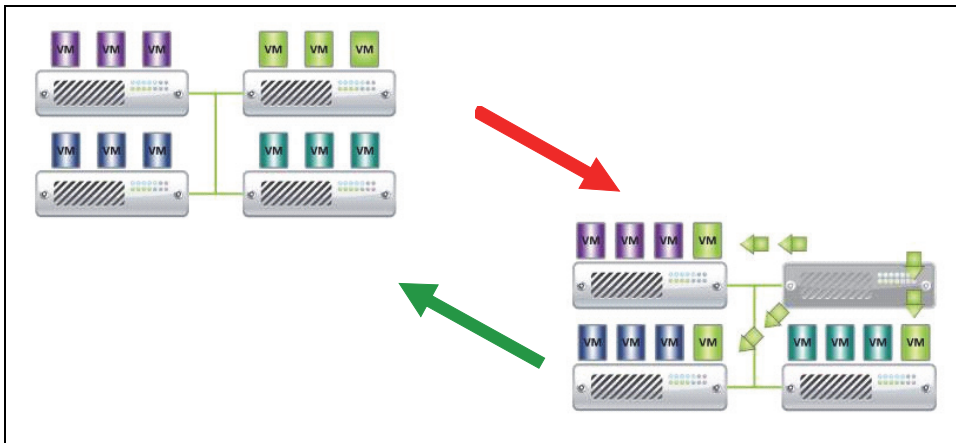

Figure 99. HA Mode with Dell MUMC
- Dell MUMC will continue to move the VM from one server to the others, if all servers are powered by different UPSs with different power source (see Figure 99).